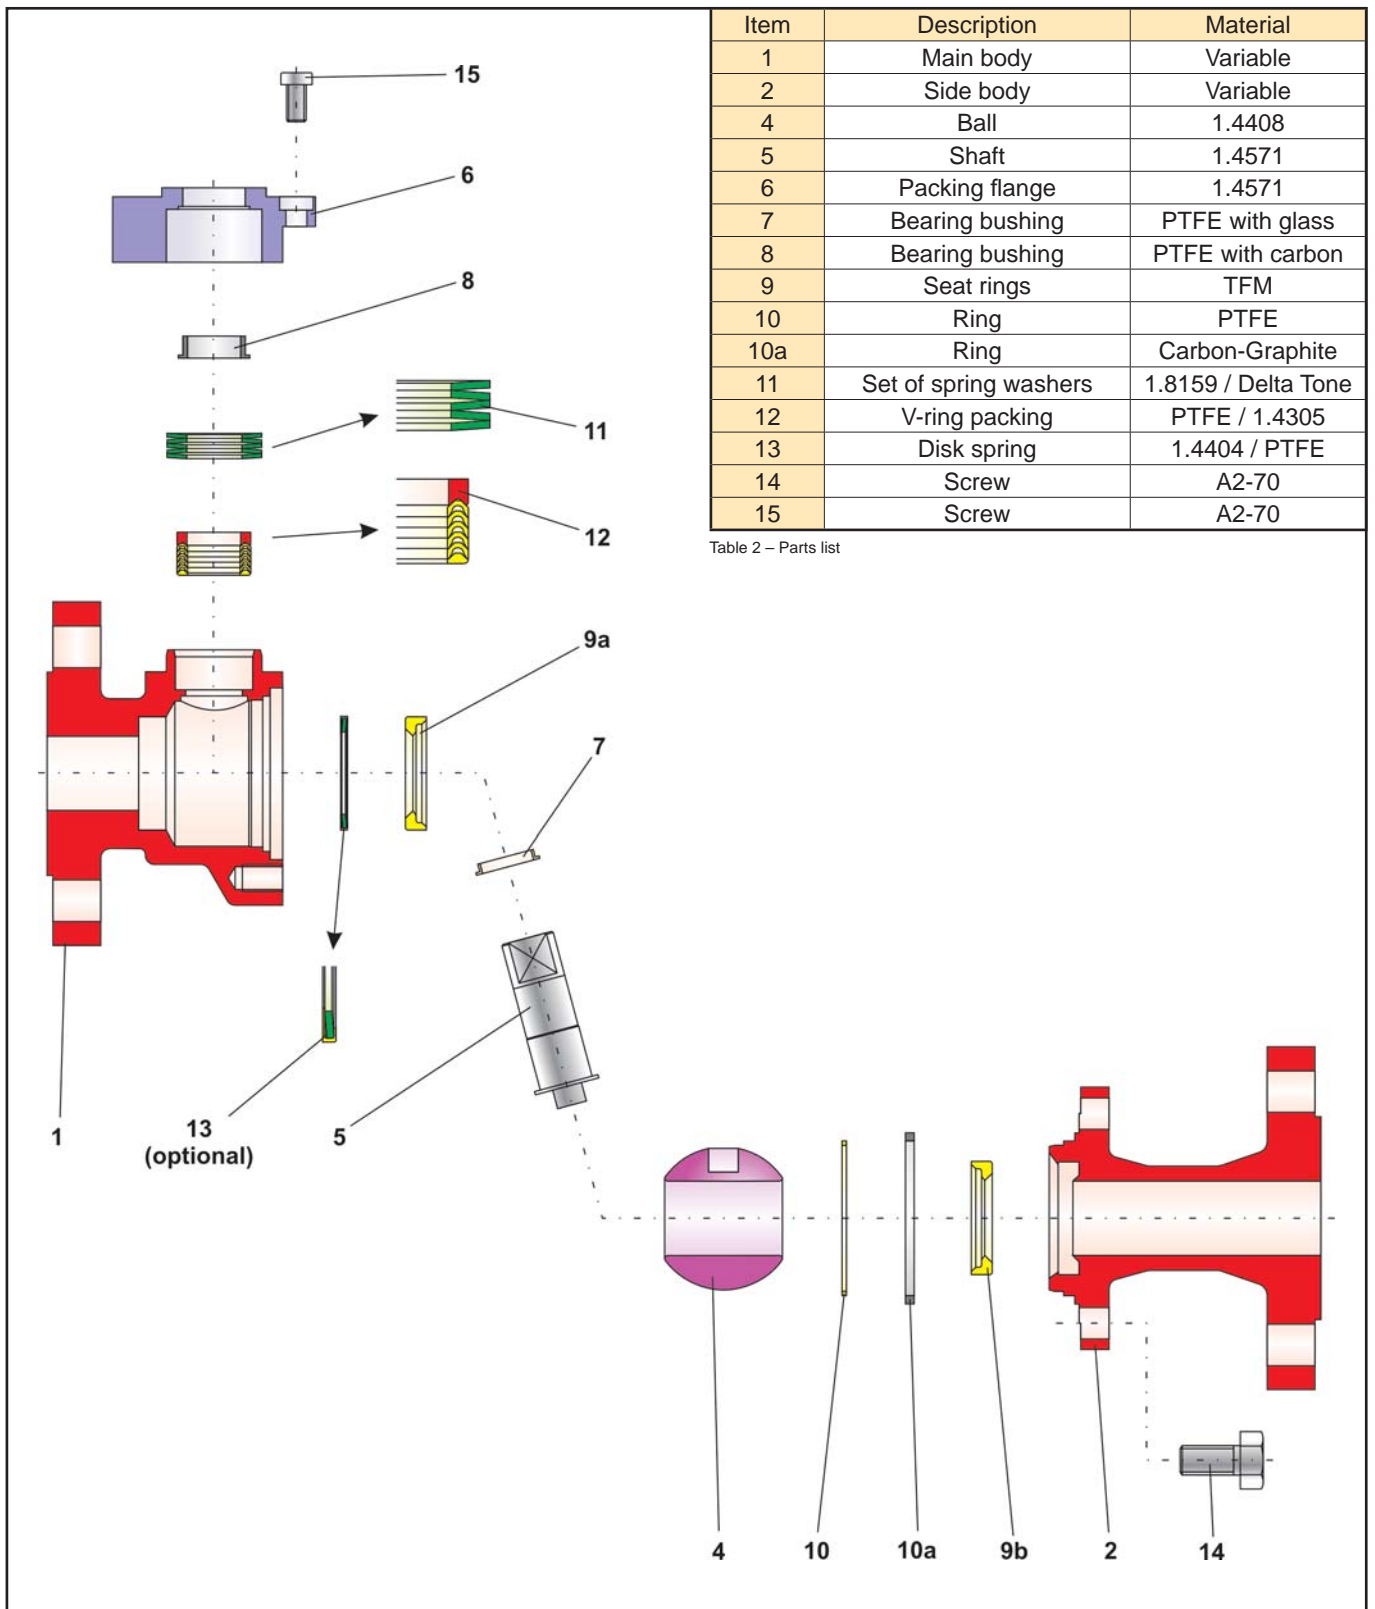

Fig. 5 - Detail drawing of standard version of Series 26a Ball Valve
Insert the encapsulated disk springs (13) into the main body (1). Refer to Fig. 5 for the arrangement of the disk springs. Press the seat ring (9a) until it touches the disk springs.
Refer to Fig. 5 for the arrangement of the V-rings.
Refer to Fig. 5 for the arrangement of the spring washers.